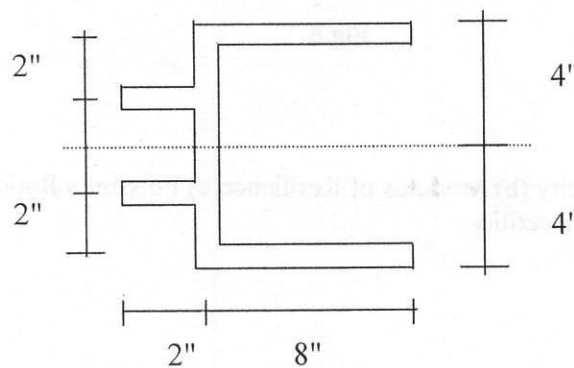

Fig.12
11. Consider a closed cylindrical steel pressure vessel. The radius of the cylinder is 1000mm and its wall thickness is 10mm. (10)
12. Locate the Shear Center for the beam section shown in Fig.12. The thickness,  $t$  is constant throughout the section. (10)